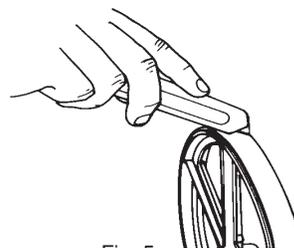

Fig. 5
3. Use a utility knife to cut through the old tire, see Figure 5.